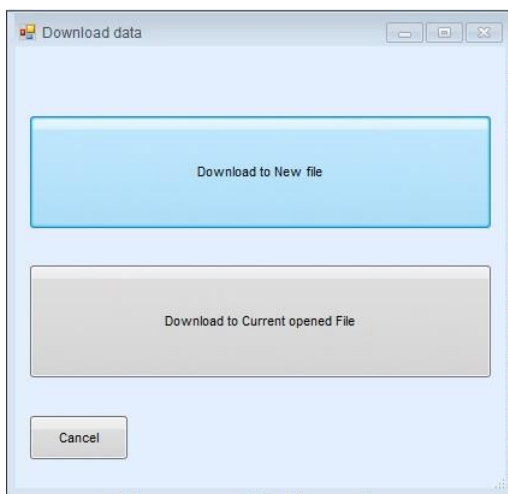

Figure 8.3: Download options selection box
- If Data structure file is already opened within User workspace, Download options selection box is opened, **Figure 8.3**: